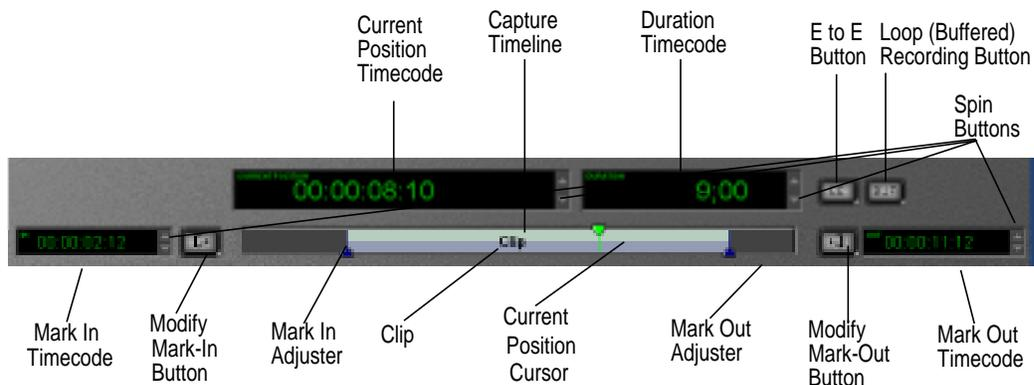

Figure 109. Capture timeline
- Drag the mark-in or mark-out cursors to a new position on the timeline (see the mark-in and mark-out cursors in Figure 109 on page 206).
- Adjust the in and out marks by entering the new timecodes in the boxes provided (see the timecode entry boxes in Figure 109 on page 206).